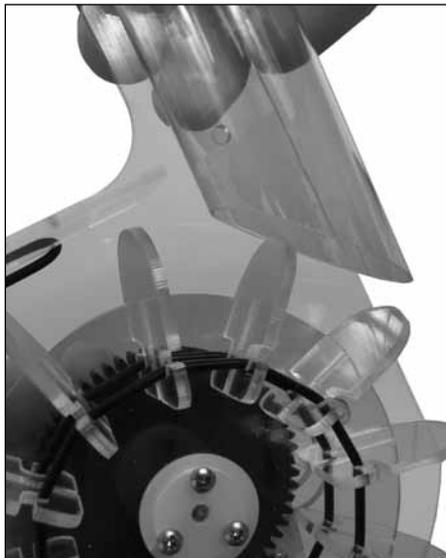

Figure 15
4. Take the clear tube and line it up with the two holes on the notch extending from the turbine. Do this so the angled end is pointing toward the turbine blades as shown (Figure 15). You want the tube as close to the blades as possible without being in the blades' path when the turbine spins.